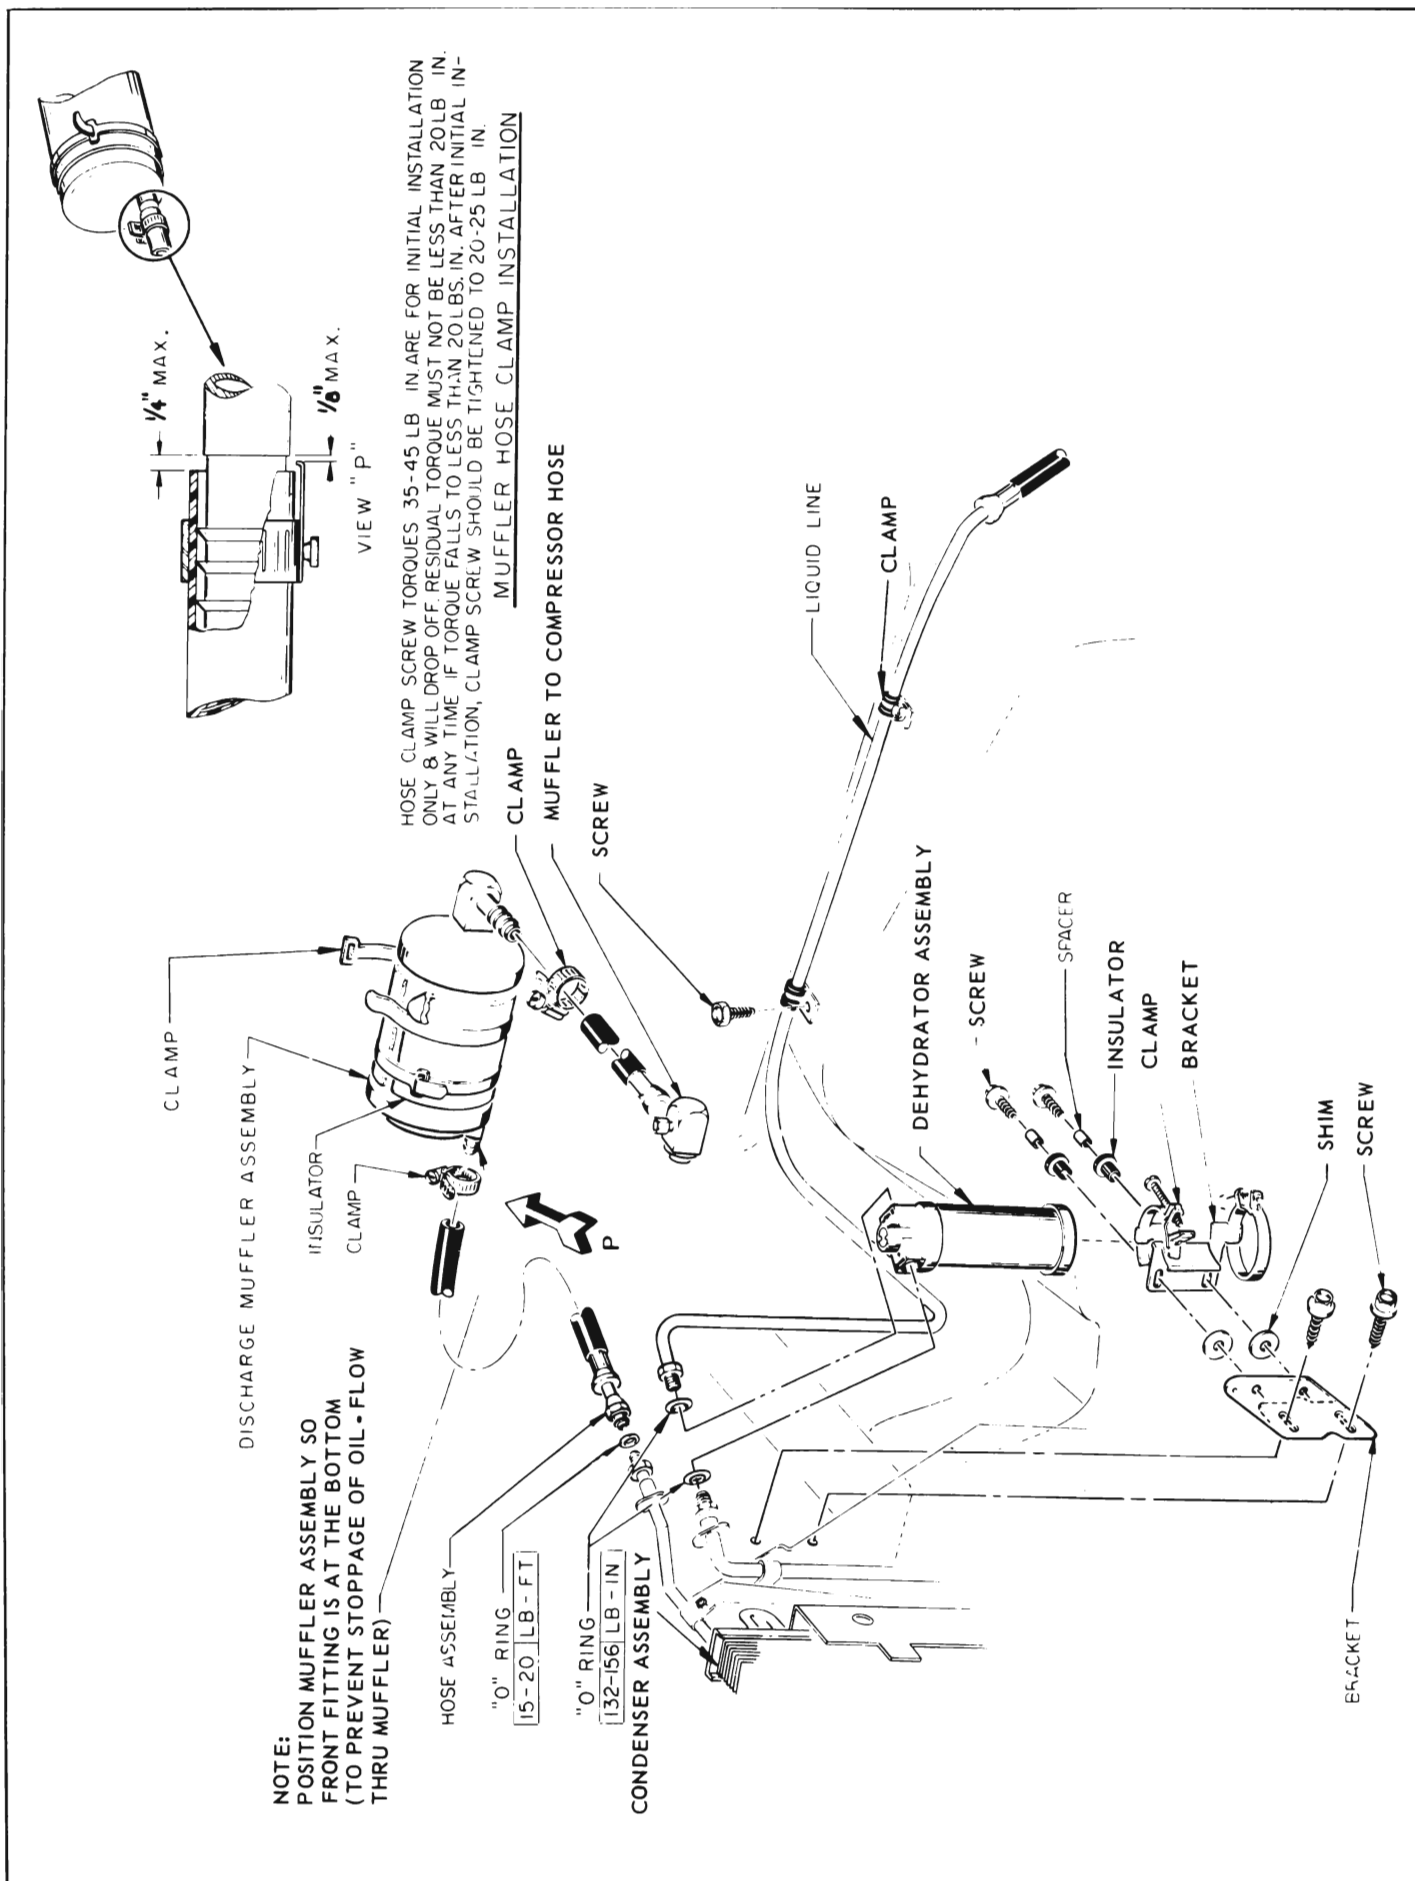

Figure 11-89—Muffler and Receiver - Dehydrator Installation - 49000 Series
2. Main Vacuum Switch Adjustment - Place FAN lever in off position. Loosen main vacuum switch attaching screws and push switch against control lever on circuit control assembly to fully depress plunger. Tighten mounting screws. See Figure 11-89.